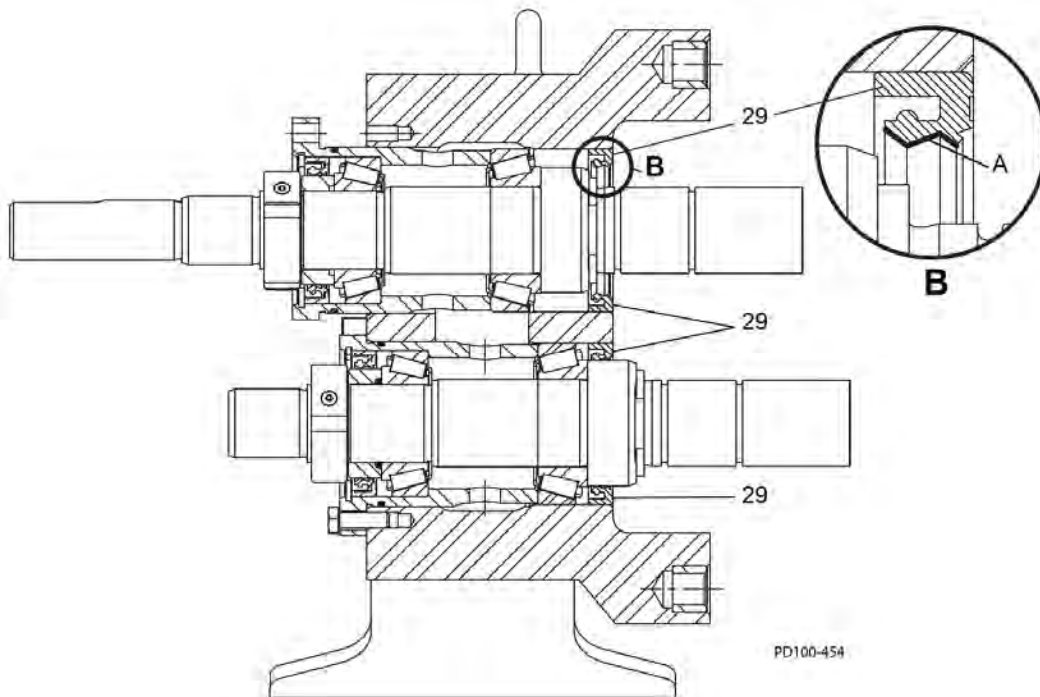
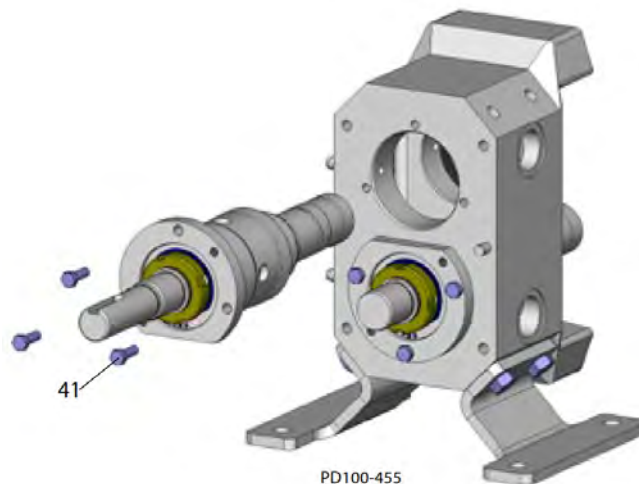

Fig. 48: Apply Bearing Grease
Fig. 49: Secure with Cap Screw
1. See Figure 48. Apply a coating of bearing grease to the inside diameter (item A) of the front lip seals (item 29).
2. Install the shaft assemblies into the gear case and secure them with cap screws (Figure 49, item 41). Apply a light film of bearing grease to the bores and bearing cups to ease installation. Use care to prevent damage to the lip seals (Figure 48, item 29) during assembly.